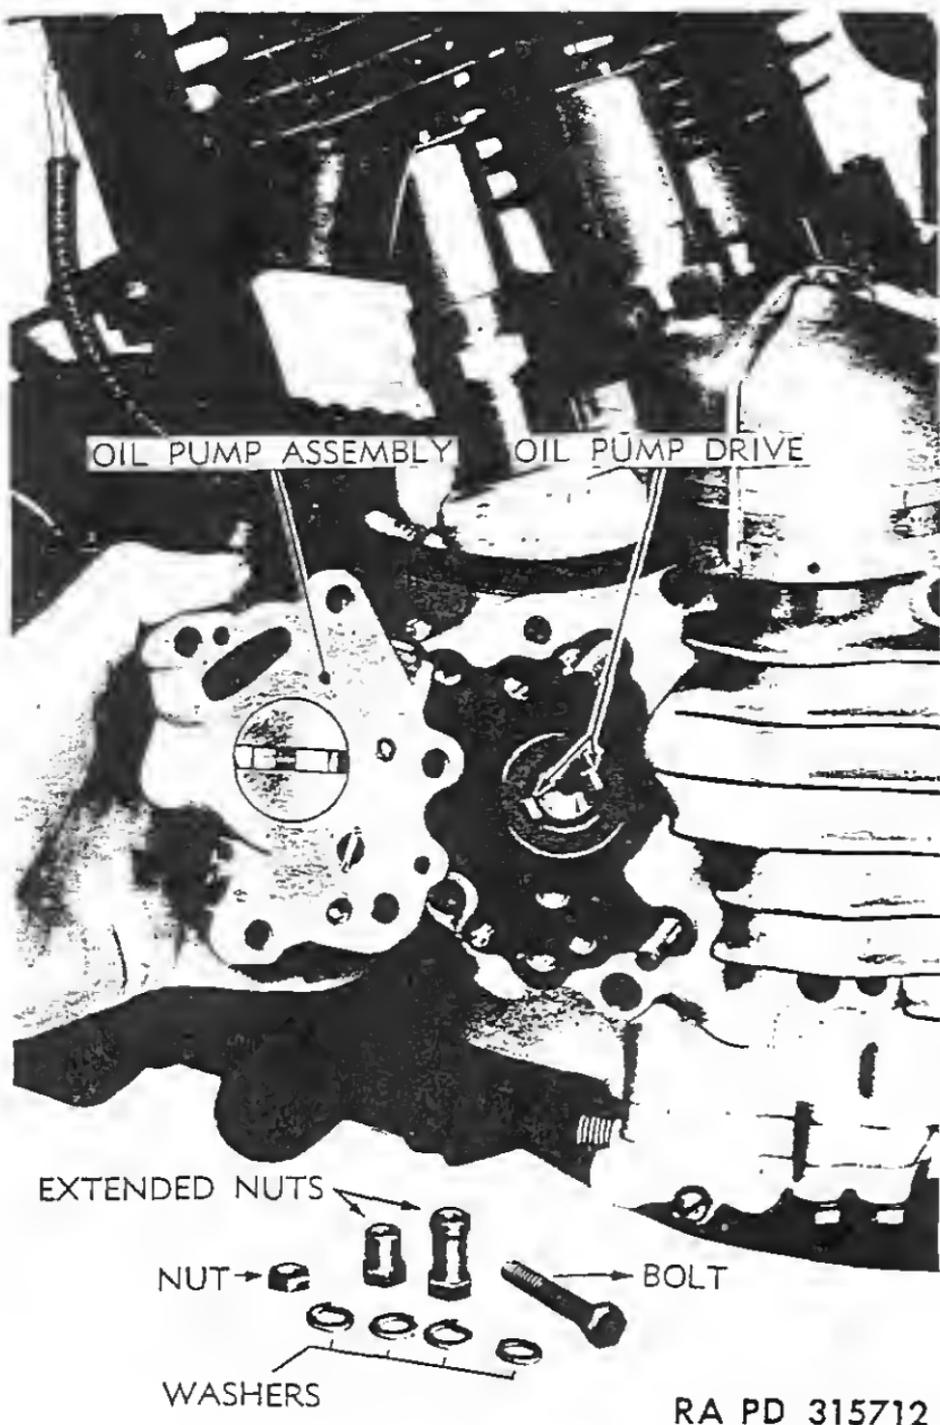

Figure 17—Oil Pump Removed
44. REPLACEMENT OF OIL FEED PUMP (fig. 17).